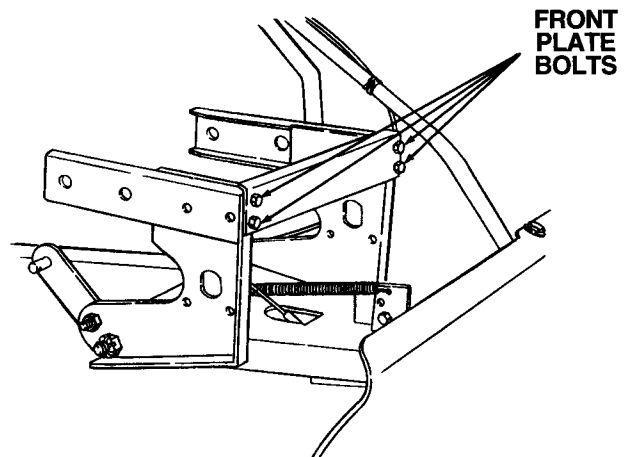

Figure 7-20. Loosen Front Support Plate.
10. Loosen **BUT DO NOT REMOVE** the four screws that fasten the front support plate to the LH and RH hitch plates. See Figure 7-20.